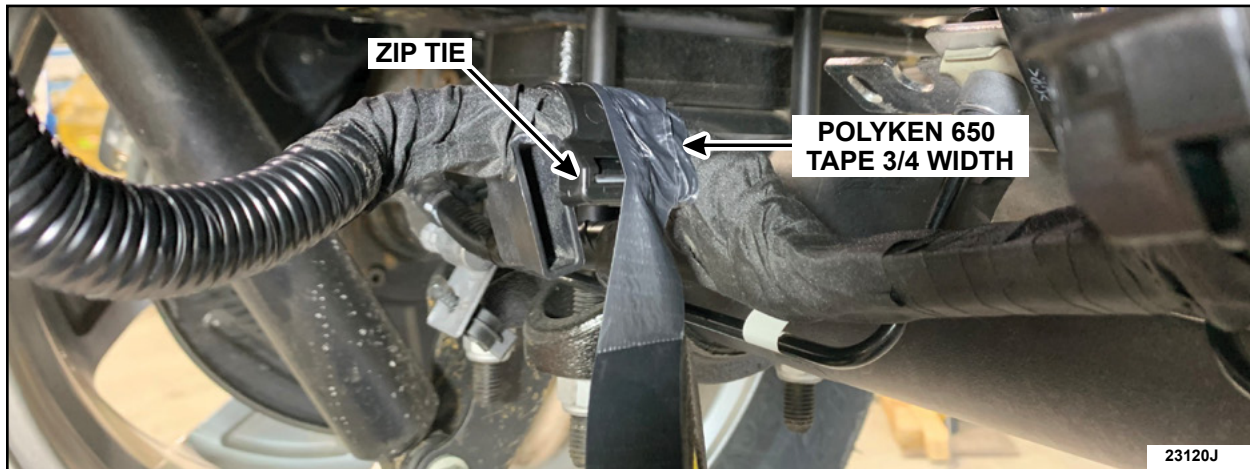

FIGURE 11
12. Pull the takeout harness rearward and apply Polyken 650 tape 3/4 width at the forward edge of the zip tie. Anchor tape to wire harness with two loops of tape, then apply four or more wraps of tape, making sure to overlap half of the zip tie. See Figure 11.